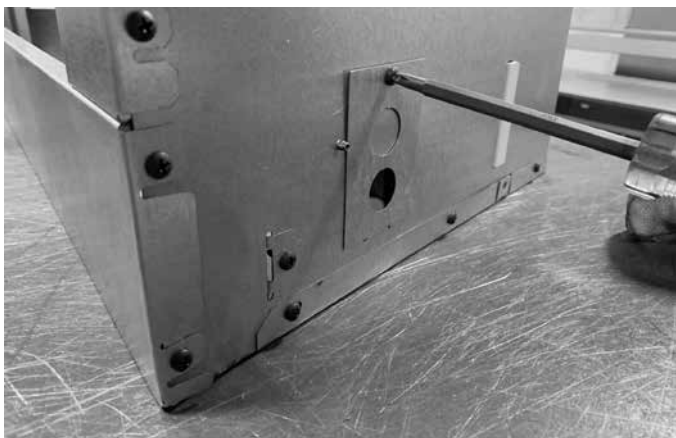

Figure 5.1 Junction Box Cover Removal
- Remove the screw attaching the junction box cover to the outer shell. Pull junction box cover out to disengage it from the outer shell. See Figures 5.1.